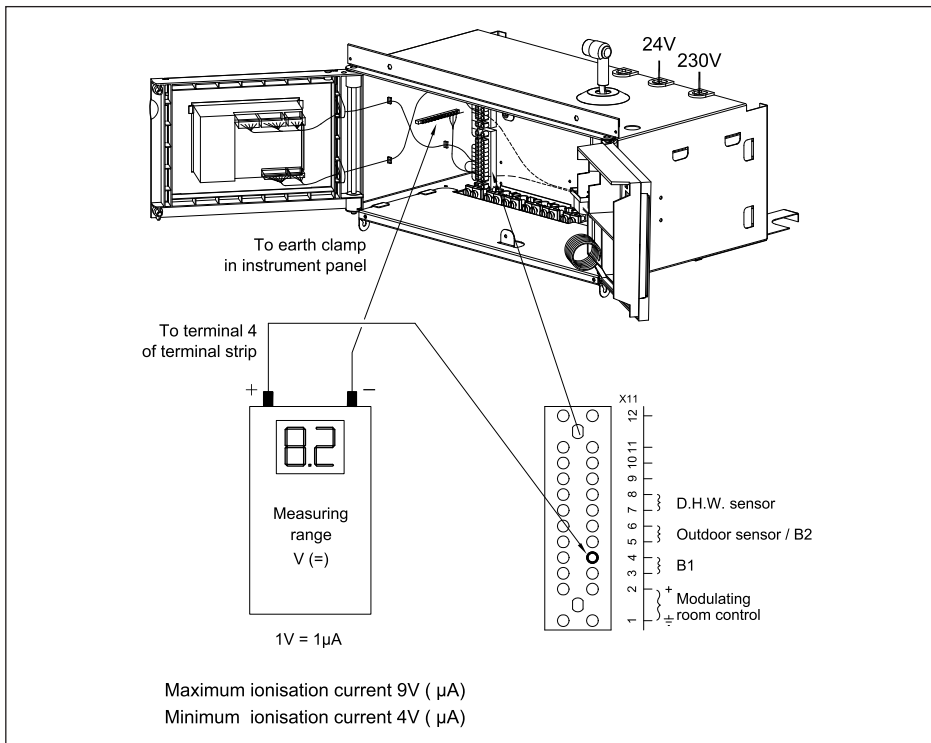

Fig. 23 Ionisation measurement
- check ionisation level, minimum 4  $\mu\text{A}$  dc (ionisation measurement in Volts between terminal 4 and earthing, 1V dc  $\equiv$  1  $\mu\text{A}$  dc, see *Fig. 23*).